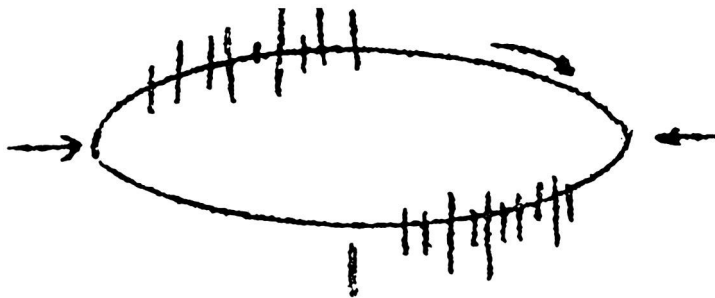

Figure 16
a) Typical internal bubble partial discharge (see Figure 16), waveform characteristics: a discharge is mainly shown in the test voltage from zero to peak within two elliptical phase limits. When the test voltage exceeds UI, the discharge extends to zero. The discharge times and amplitudes of the two opposite half cycles are almost the same (the maximum difference is 3:1). D discharge waveform can be distinguished. There are several situations: 1) if the discharge amplitude increases with the increase of test voltage, and the discharge waveform becomes indistinct, it is often that there are many bubbles in the dielectric or discharge on the surface of the dielectric; 2) in addition to the above conditions, if the discharge amplitude increases rapidly with the pressure time (up to 100 times or more), it is often the bubble in the insulating liquid Discharge, a typical example is the discharge of oil impregnated paper capacitor.